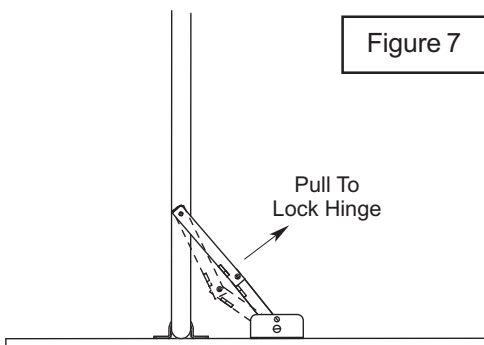

Figure 7
- D. Open leg and lock leg hinge. See Figure 7. Remove spacer that you used between hinge legs.